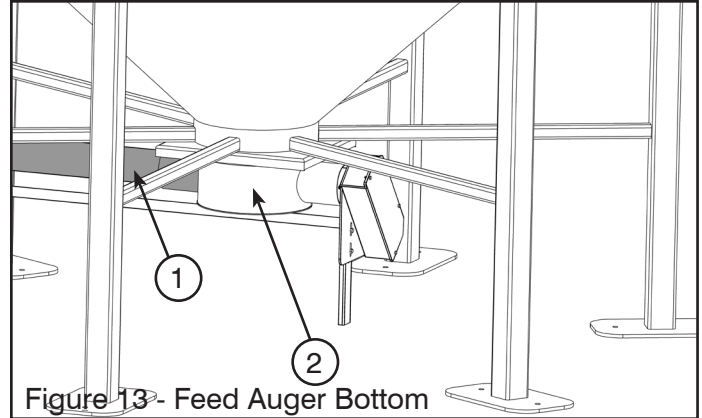

Figure 13 - Feed Auger Bottom
1. Slide the feed auger tube (1, Fig. 13) through fuel hopper discharge boot (2, Fig. 13).
1. Insert the ash auger shaft (1, Fig. 16) into the ash auger discharge tube (4, Fig. 13) ensuring the square hub is on the square shaft.